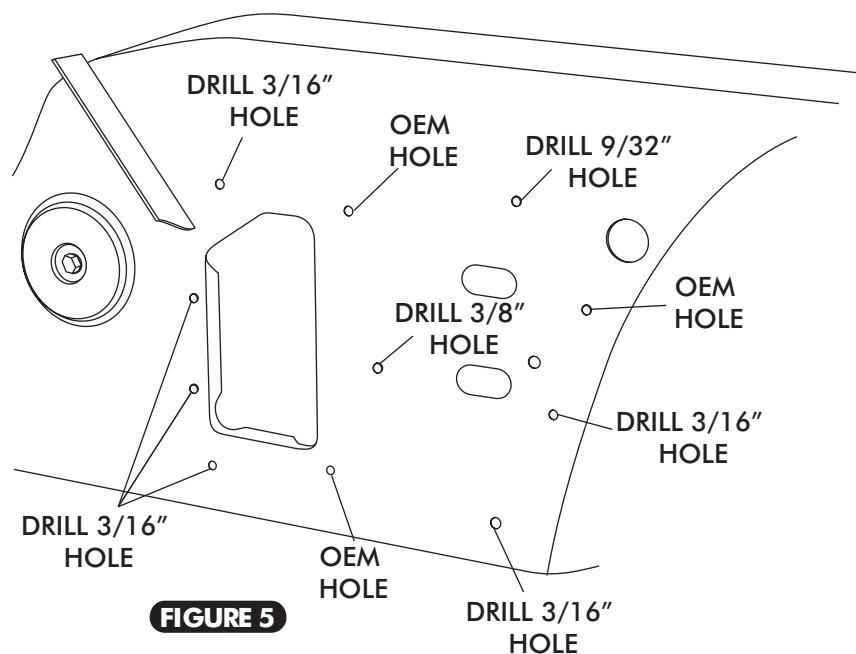

FIGURE 5
- DRILL HOLES AS SHOWN BELOW IN FIGURE 5.